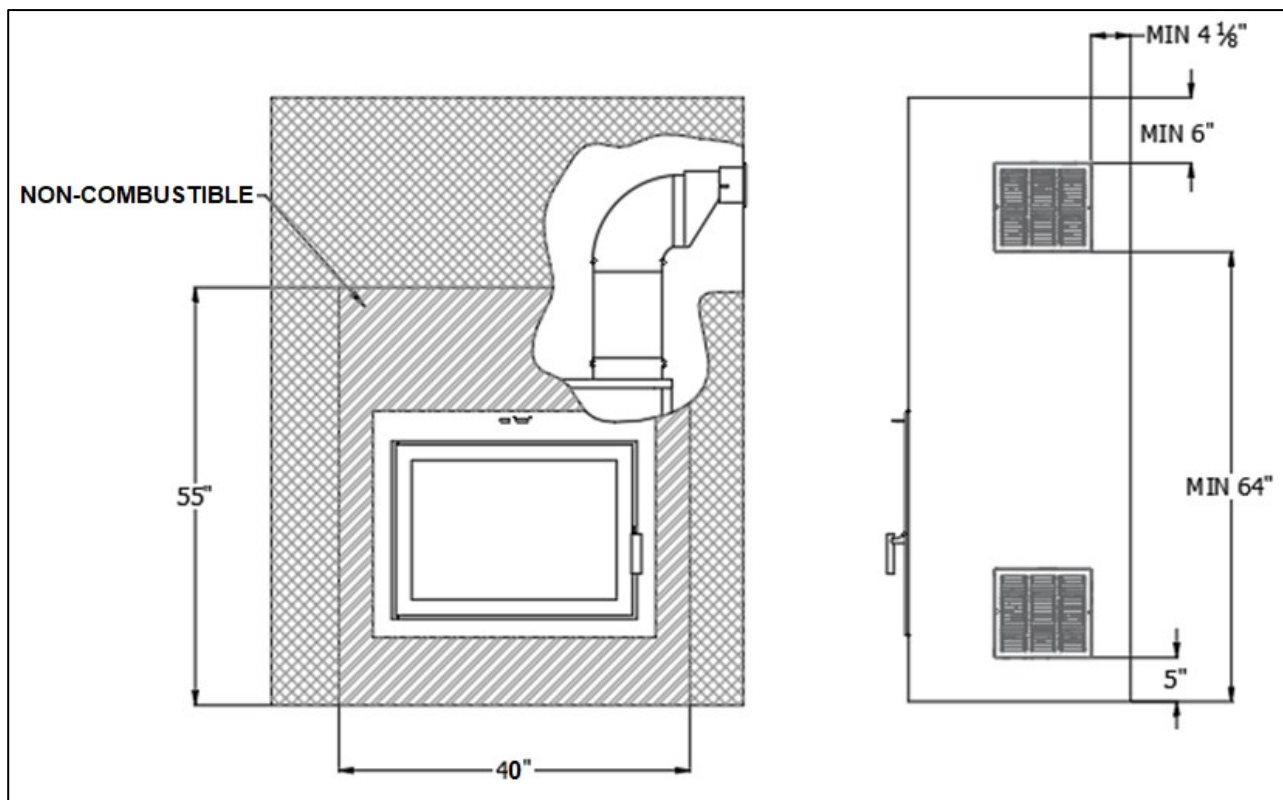

Figure 3-39: Front and Side Chase for Clean Face Dual Louver Configuration
**Refer to Figure 3-39 for clearances to combustibles.**
A portion of the front of the chase must be constructed out non-combustible material. Refer to Figure 3-39, 3-40, and 3-41 for dimensions. Note the chase must be properly fastened onto the framing structure.
For the clean face surround option, two intake openings must be constructed onto the chase, as well as two outtake openings or one if installing the linear single louver front (Section 3.5). Refer to Figures 3-39 and 3-41 for minimum clearances.